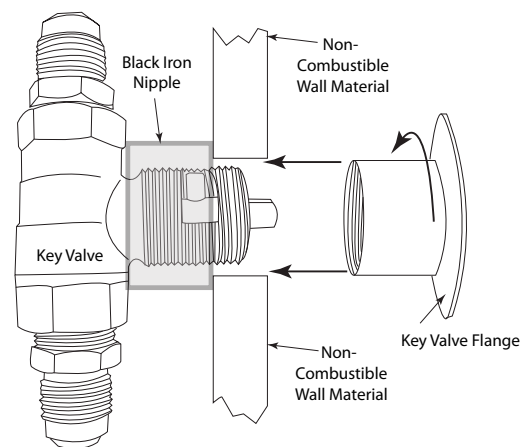

Fig. 7 Typical Installation
3. The primary gas shut-off (not supplied) will require a ½" male flared fitting to enable connection of the stainless steel flex gas line supplied with the fire pit (see Fig. 7 page 9).